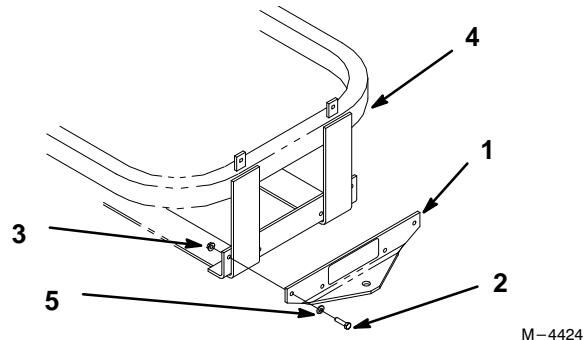

Figure 1
2. Install hitch to the rear of machine. Align holes and tighten locknuts, washers and bolts. Torque to 200 in-lbs (22.6 N·m) (Fig 1).